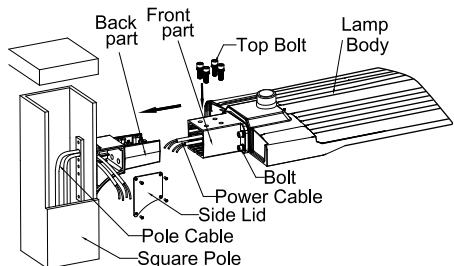

Figure 3
1. Take off the top bolt on IM bracket. Open side lid on the back part after take IM bracket apart into the front part and the back part. Let the power cable go through the front part of the IM bracket. Fix the front part to the end of lamp body with bolt. Let the pole cable go through the back part of the IM bracket, Fix the back part of the IM bracket to the pole with bolt. (Figure 3)